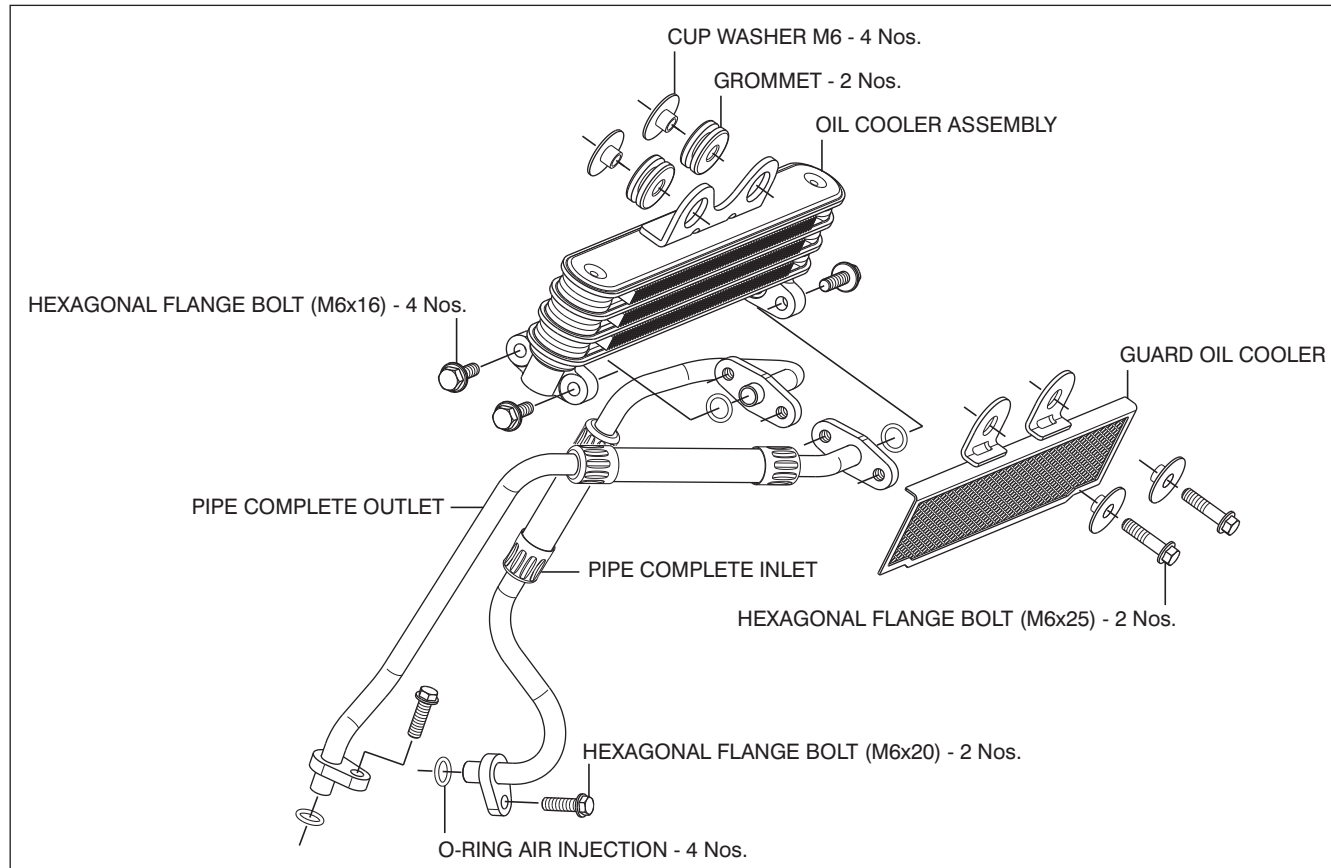

Fig. 2.64
- Reassemble the parts in the reverse order of removal. Refer exploded view for details. (Fig. 2.64)